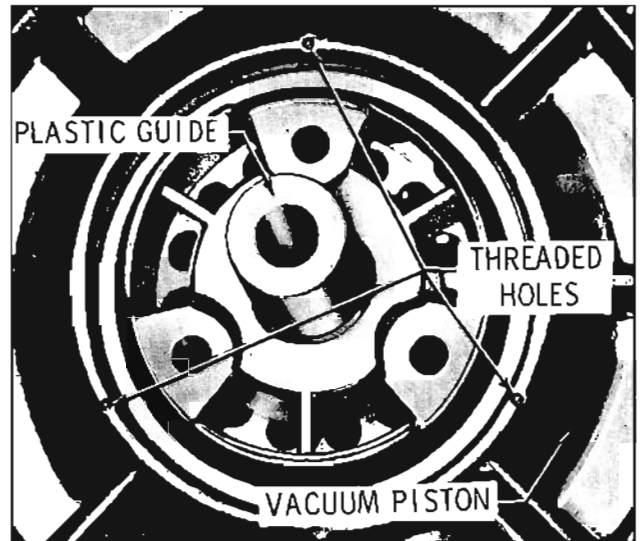

Fig. 11-62 Aligning Vacuum Piston and Guide
4. Position the reaction plate on the vacuum piston, aligning three of the holes with the threaded holes in the vacuum piston. (Fig. 11-62)